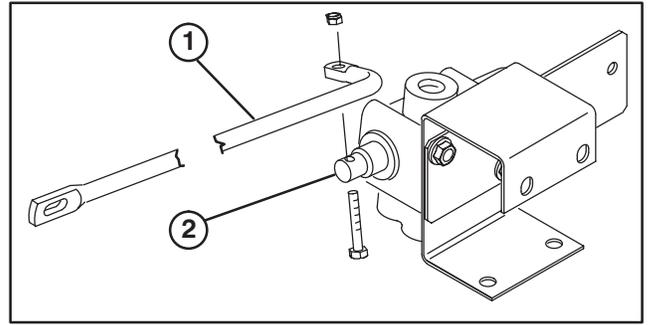

Figure 8
15. Mount connecting rod to control valve assembly with a M5 x 30 mm capscrew and nut, as shown in figure 8. Nut must be positioned on top.